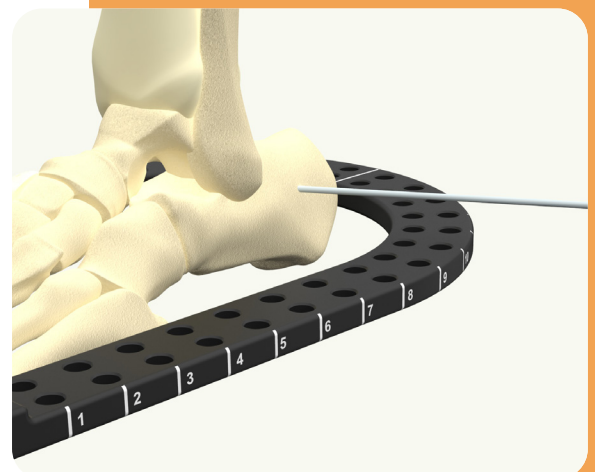

Fig. 5 - Insert Wire
- 5 Insert Wire under power through the posterior calcaneus in line with the Foot Ring (Fig. 5).